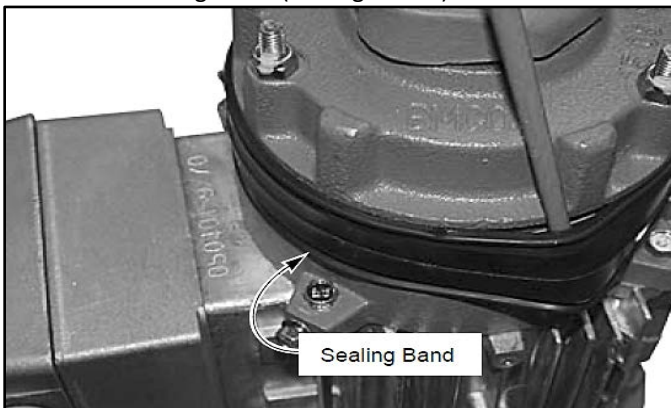

Figure 28
3. Remove sealing band. (See Figure 28.)